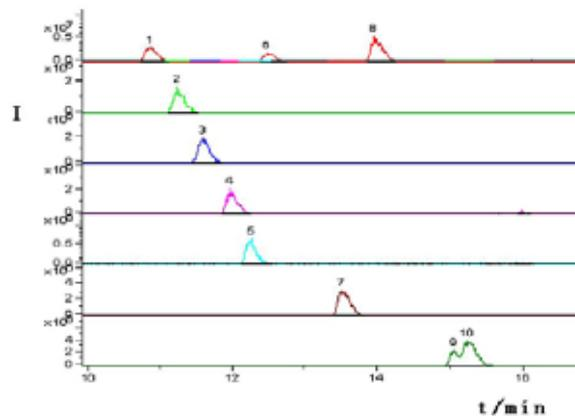

Figure 2 Extractive ion chromatogram of 10 sulfonylurea herbicides
2. Extraction and Cleanup(Figure2)